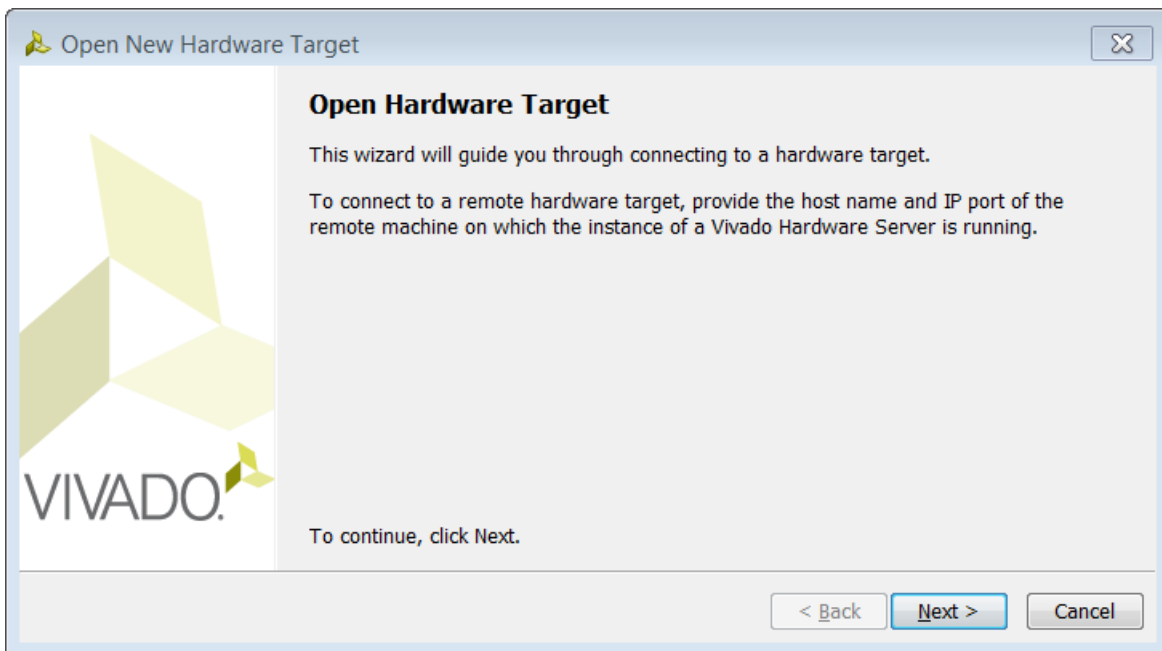

Figure 82: Open Hardware Target
3. The Open New Hardware Target dialog box opens (**FIGURE 82**). Click **Next**.